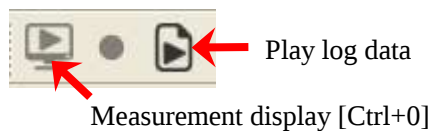

Figure 3-15 Play log data button
- ① Click play button as shown in figure 3-15.